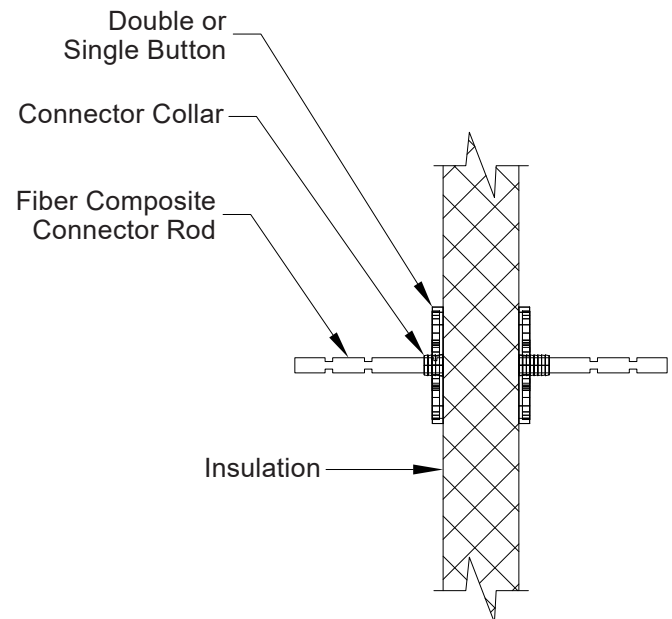

Figure 3 – Connector rod installed through insulation with snap lock buttons attached correctly
- c. Place the insulation on a flat surface so that the rods and buttons support the insulation. Install the final button on each connector by pressing the front side of button down onto the collar until the insulation is slightly compressed. The buttons on each side of the insulation will now clamp the insulation in place (Figure 3).